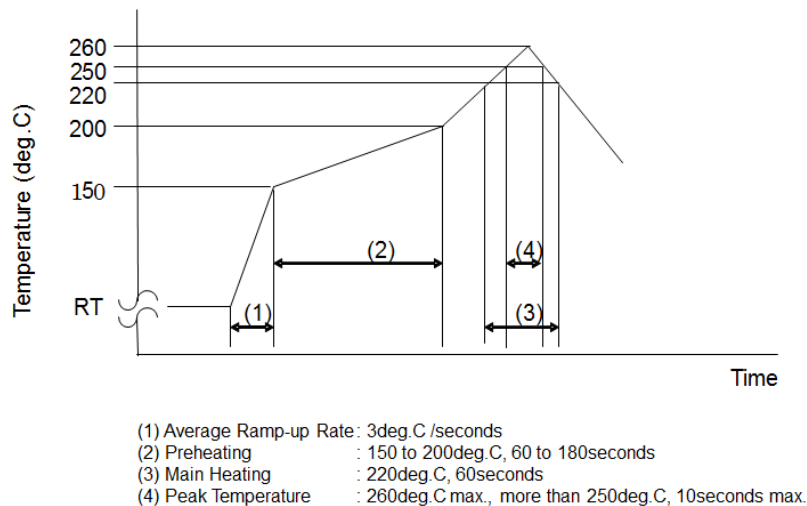

Figure 2
The solder reflow condition (infrared reflow/heat circulation reflow/hotplate reflow) shall be optimized and verified by the customer within the condition shown in Fig.2 to realize optimum solder ability. An excessive reflow condition can degrade the WLCSP MMICs that may result in device failure. The solder reflow must be limited to three (3) cycles maximum. The temperature profile during reflow soldering shall be controlled as shown in Fig.2.